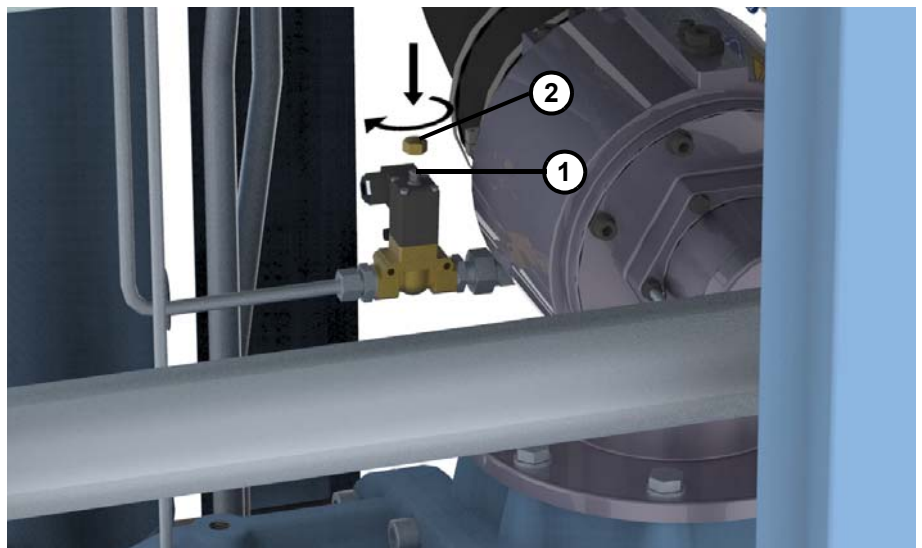

Fig. 6.11: Screw the cap nut onto the ventilation opening
2. Remove the service side cladding so that the ventilation opening (1) of the solenoid valve is accessible (see figure 6.11).
3. Screw the supplied cap nut (2) onto the ventilation opening (see figure 6.11).
27. Unscrew the cap nut on the ventilation opening of the solenoid valve again (see also figure 6.11).